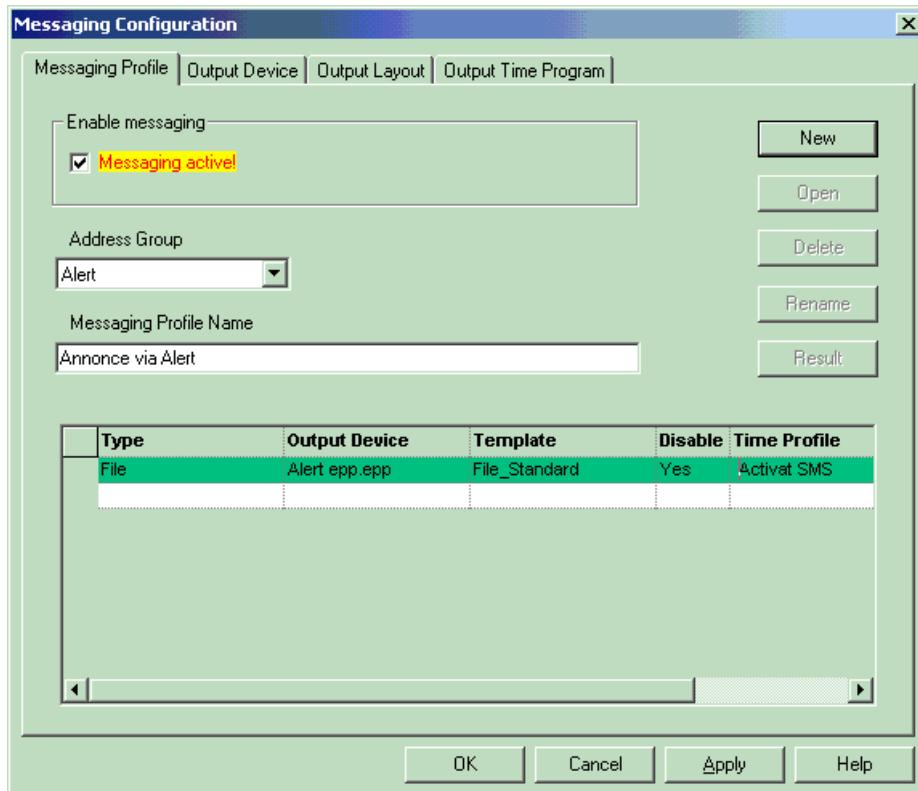

Fig. 7-44
- Next, in the "Event Publisher Configuration" window, go to the "Assign output medium" tab and activate the option: "Online messaging is active" (see Fig. 7-44).